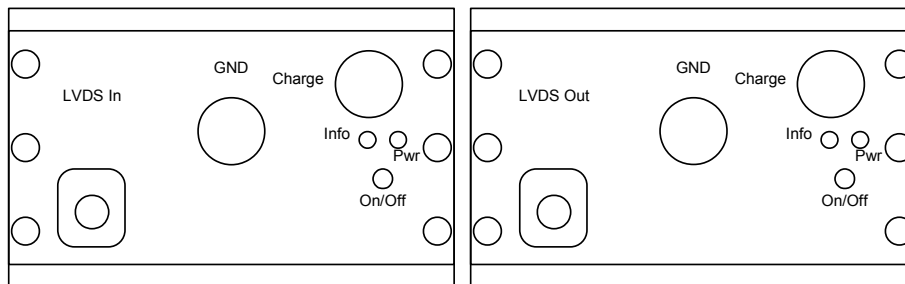

Fig. a.1: Front side of the devices with connectors and switches
Fig. a.1 shows the front sides of transmitter (left) and receiver (right) with connectors
- Turn on all devices (power push button, see Fig. a.1)
If the transmission suddenly stops after a long duration of measurement, check the *Info* LED of the transmitter (see Figure a.1). If the battery power falls below 4,3V, the *Info LED* is switched on. The system should be reloaded soon. Below 3,8V, the system is turned off automatically.